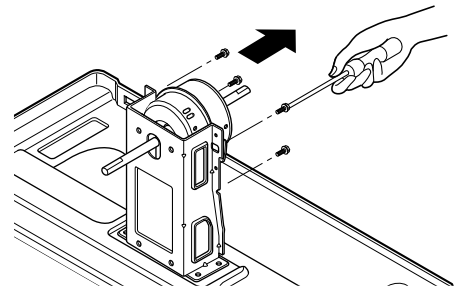

Figure 9
3. Remove the 2 screws which fasten the motor. (See Fig. 9)